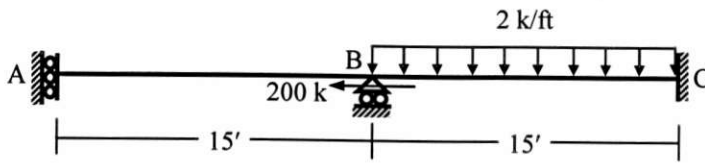

Fig. 6
- For the beam shown in Fig. 6, calculate the approximate first natural frequency in transverse direction using consistent mass matrices and considering geometric nonlinearity [Given: $EI = 40 \times 10^3 \text{ k-ft}^2$, Mass per unit length = $0.0045 \text{ k-sec}^2/\text{ft}^2$].